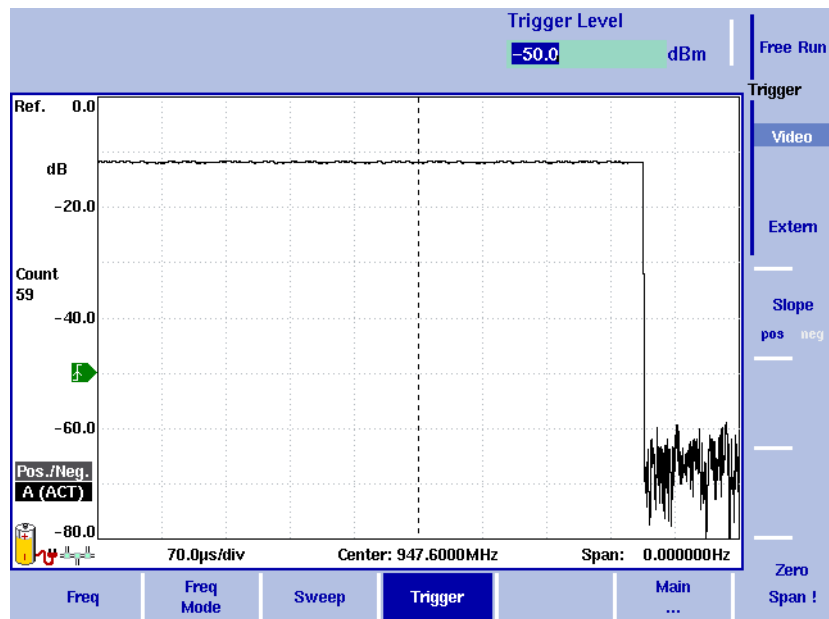

Figure 36 Triggered measurement (in the time domain)
- 3 Push the **Zero Span** softkey. The horizontal axis becomes the time axis. The scale width is identical to the sweep time. See Figure 36 on page 122 for an example.
The active slope is indicated at the power axis by the following symbol (see also Figure 36):